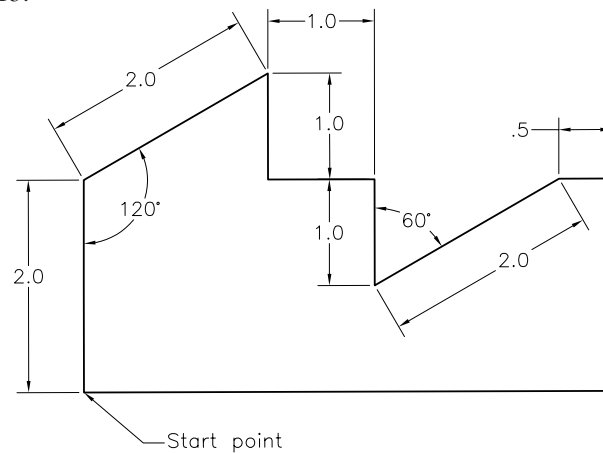

Figure 2-49 Drawing for Example 5
In this example, you will set the units of a drawing based on the specifications given below and then draw Figure 2-49.
6. With the units set, you need to draw Figure 2-49 by using the relative polar coordinates. Turn off the dynamic input. The prompt sequence to complete the sketch is as follows: